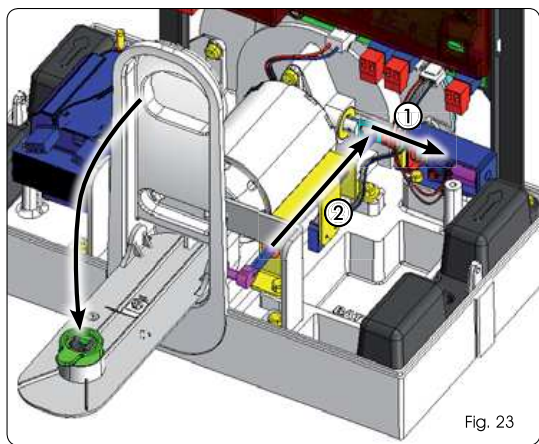

Fig. 23
! Lowering the release lever, both the motor lock, which is retracted (Fig. 23 re. ①), and the safety microswitch forcing the automation to STOP (Fig. 23 re. ②) are operated.